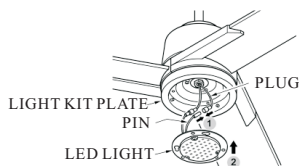

FIG.16
4. Plug together light kit wires from fan to light kit wires from LED light (see Fig.16)